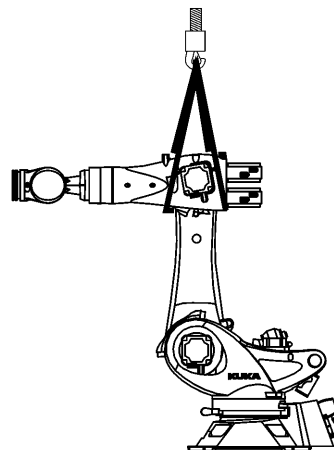

Fig. 11-23: Securing the link arm
4. Secure link arm using a rope sling and crane (>>> Fig. 11-23).